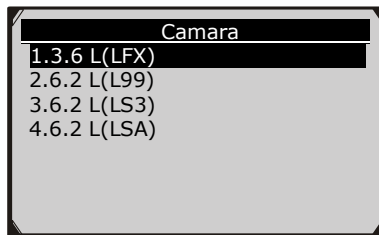

Figure 6.6
- 5) Follow screen entries to select the correct engine model. (Figure 6.6)